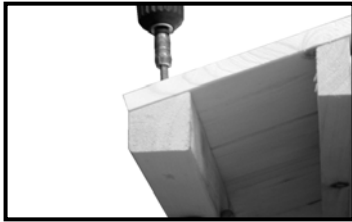

Fig G5
8. Next fit the roof edgings to the outer edges of the roof boards with 50 mm screws at approximately 300mm centres (Fig. G5).